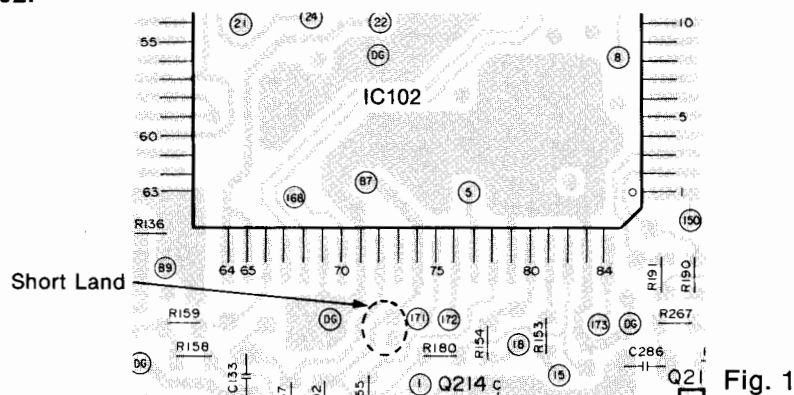

Fig. 1
2. Short pins ⑦④ and ⑦⑤ of IC102. (Fig. 1)